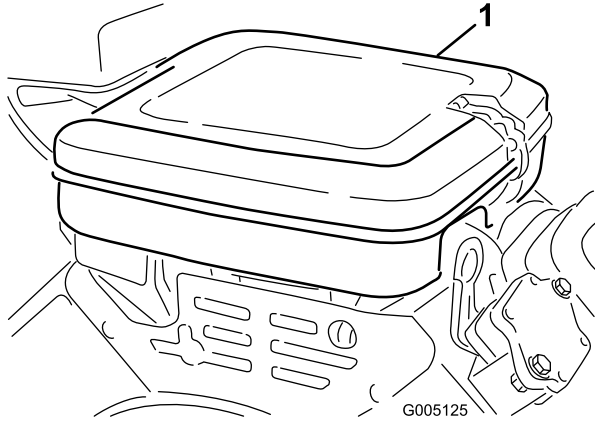

Figure 42
1. Release the locking clips and remove the air-cleaner cover (Figure 42). Clean the cover thoroughly.